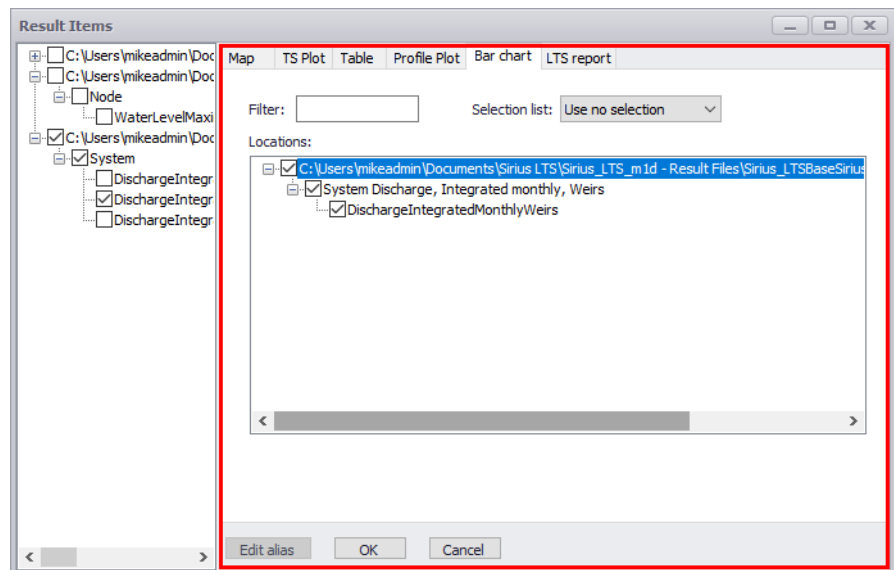

Figure 20.64 The Bar Chart tab on the Result Items dialog
- Access the ‘Bar Chart’ tab on the ‘Result Items’ dialog (Figure 20.64).
- Select the items and locations which shall be plotted on a bar chart (Figure 20.64). Note that it is not possible to customize data series labels (i.e. Edit alias) for bar charts, nor is it possible to edit existing bar charts.